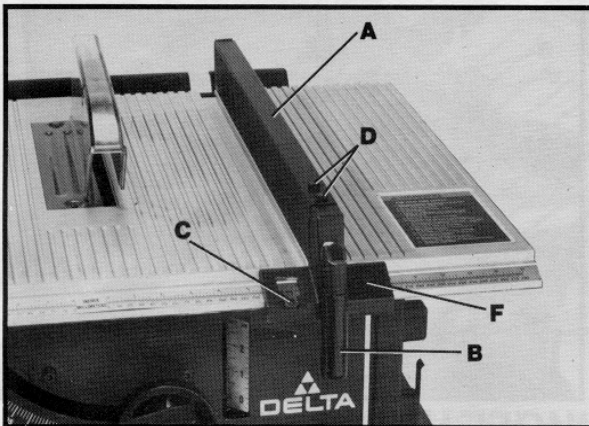
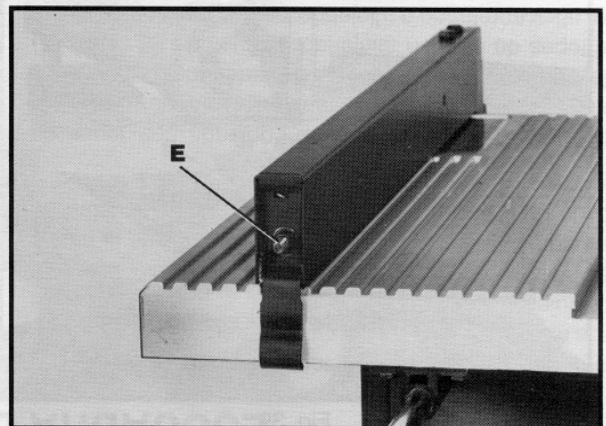

Fig. 36
Fig. 37
1. To move the rip fence (A) Fig. 36, along the table, lift up fence locking lever (B), slide the fence to the desired location on the table and push down fence locking lever (B) to lock the fence in position.
2. A pointer is supplied to indicate the distance the fence is positioned away from the saw blade. If an adjustment to the pointer is required, loosen the screw (C) Fig. 36, that fastens the pointer to the fence bracket and adjust the pointer accordingly.
5. Position the fence at one end of the miter gage slot, as shown in Fig. 36. Clamp the fence to the table by pushing down the locking lever (B). The edge of the fence should then line up parallel with the miter gage slot.
7. Loosen the two screws (D) Fig. 36, and lift up locking lever (B). Then while holding the fence bracket (F) firmly against the table and rail, move the rear end of the fence (A) until it is parallel with the miter gage slot. Then tighten two screws (D) and push down locking lever (B).
8. The clamping action of the fence (A) Fig. 36, can be adjusted by lifting up locking lever (B) and turning nut (E) Fig. 37, clockwise to increase or counterclockwise to decrease the clamping action of the fence.